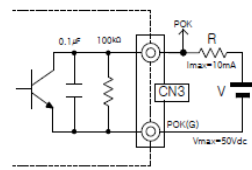

Fig.4 POK internal circuit diagram
- o Alarm Signal(POK) of Time Chart is POK, POK(G) terminal voltage at Fig.4 (POK internal circuit diagram)